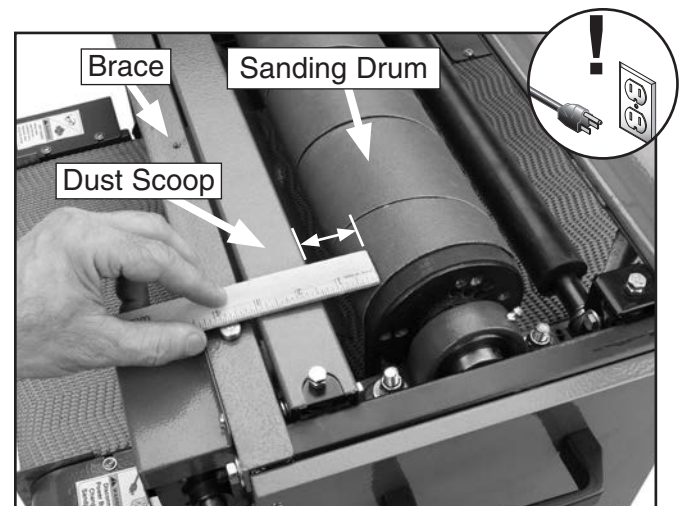

Figure 33. Measuring distance between drum and dust scoop.
- First measure the distance between the outside of the drum and the inside of the dust scoop (**Figure 33**). The distances should be within $\frac{1}{8}$ " of each other at each end of the drum.